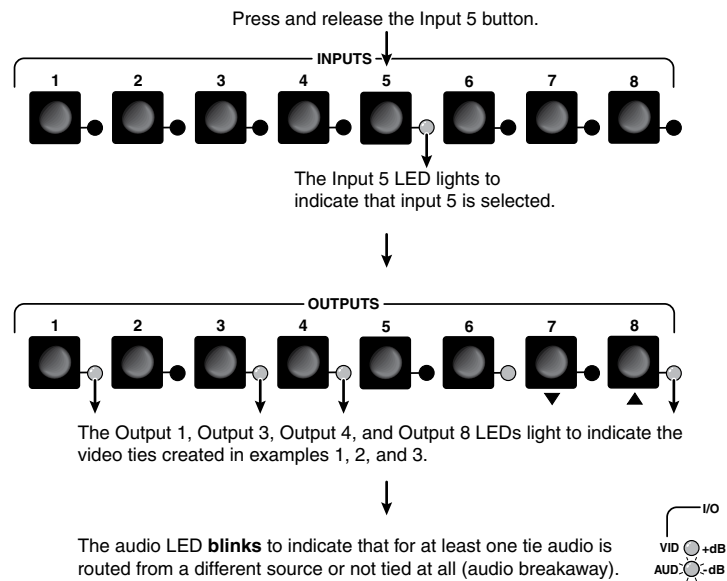

Figure 3-19 — Select an input
- Press and release the Input 5 button (figure 3-19).